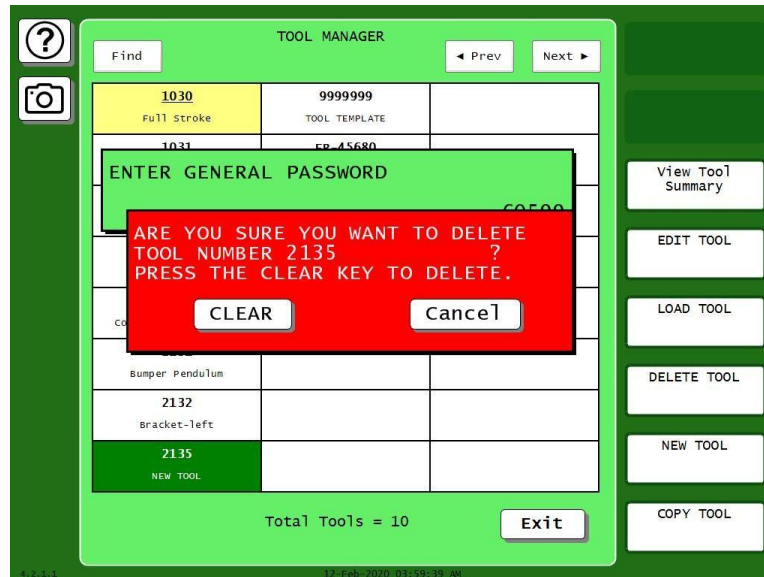

Figure 5-9. Delete Tool Confirmation Message
1. On the Tool Manager screen, highlight the tool you want to delete, and press Delete Tool. The window shown in Figure 5-9 appears, asking you to confirm that you want to delete the tool.